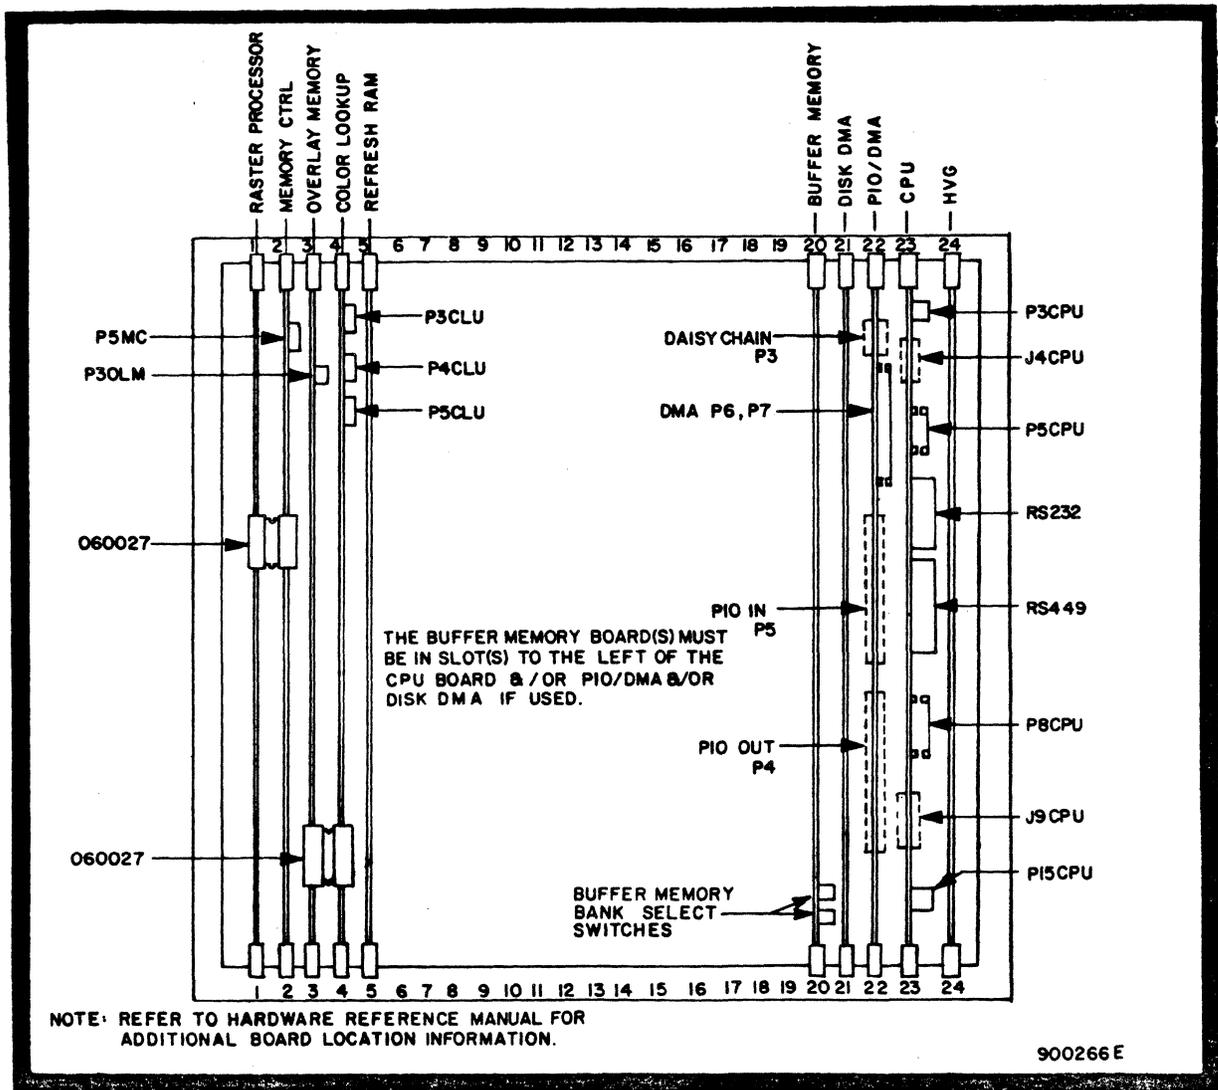

Figure 2
- 5) Feed the internal cable under the analog card cage to the Overlay Memory digital board (Slot 3) (See Figure 2).